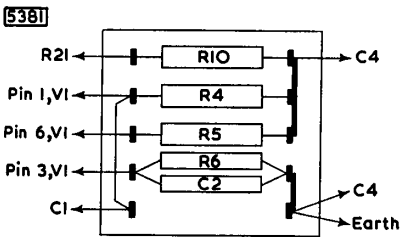
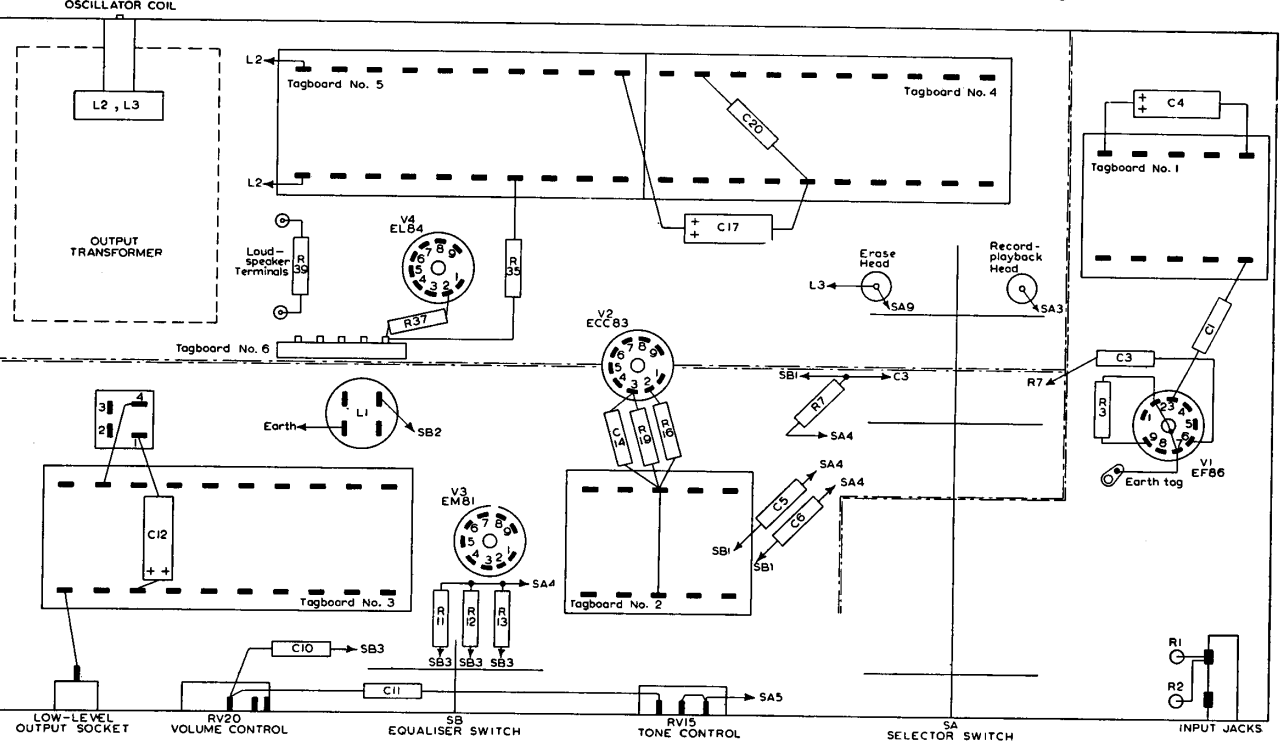
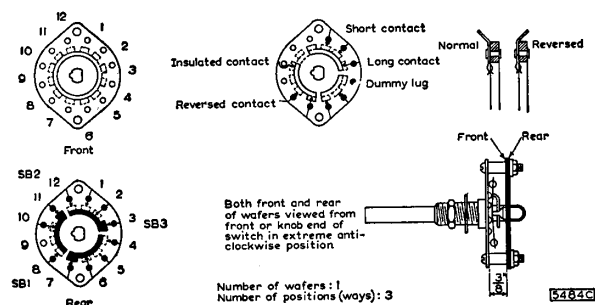

Fig. 5—Tagboard No. 1
Fig. 11—Suggested layout of components
Fig. 12—Equaliser-switch details
- (1) The erase and playback sockets which have to be fitted to the chassis beneath wafer 3 of switch SA.
- (2) The nylon-loaded valveholder for the ECC83, complete with the skirt for the screening can. Pins 1 and 9 should face towards the coaxial sockets.
- (3) A five-way tagboard. This should be bolted to the internal screen (c) in the position marked 'Tagboard No. 6' in the layout diagram of Fig. 11.
is farthest from the switch plate. The internal screen (c) should be added to the assembly, both screens should be bolted together, and wafer 3 should be fitted in position, again with its 'rear' face (Fig. 4) farthest from the switch plate. The general arrangement of the switch wafers and internal screens is shown in Fig. 11. Details of spacers required for the assembly are shown in Fig. 4. The use of a shock-proof washer is recommended between the switch plate and the front panel when the switch and screens are fitted to the main chassis. A suitable layout of the other components is shown in Fig. 11. The arrangements of the small components on tagboards are shown in Figs. 5 to 10. Details of the equaliser switch are given in Fig. 12.